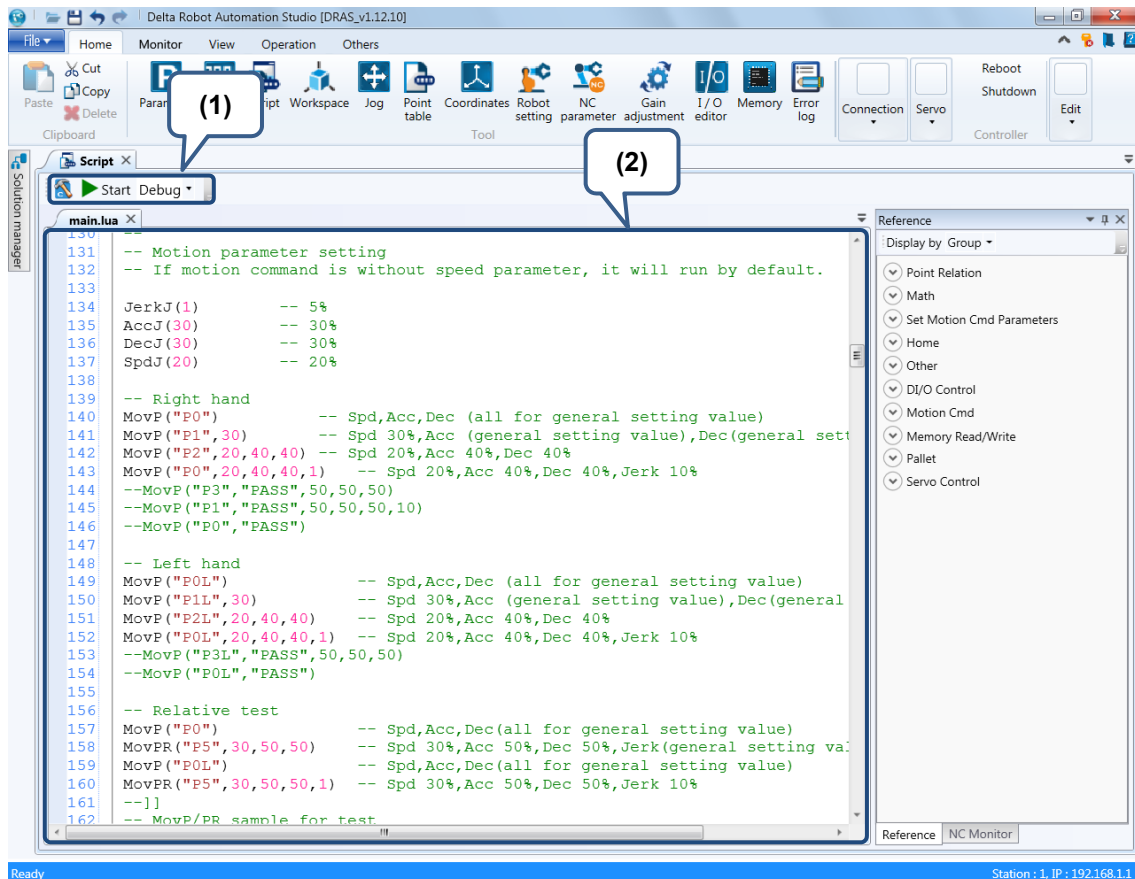

Figure 6.1.1 Robot settings
Through the **Robot settings** of DRAS, users can establish a complete robot motion procedure. Apart from functions of script, download, and operation, the **Robot settings** include functions such as debugging, syntax check, code completion and function completion. See Figure 6.1.1, the **Robot settings** section has two parts, (1) Tool bar and (2) Script. Attention: To run the script successfully, the script content has to be saved in file named after “main.lua”.